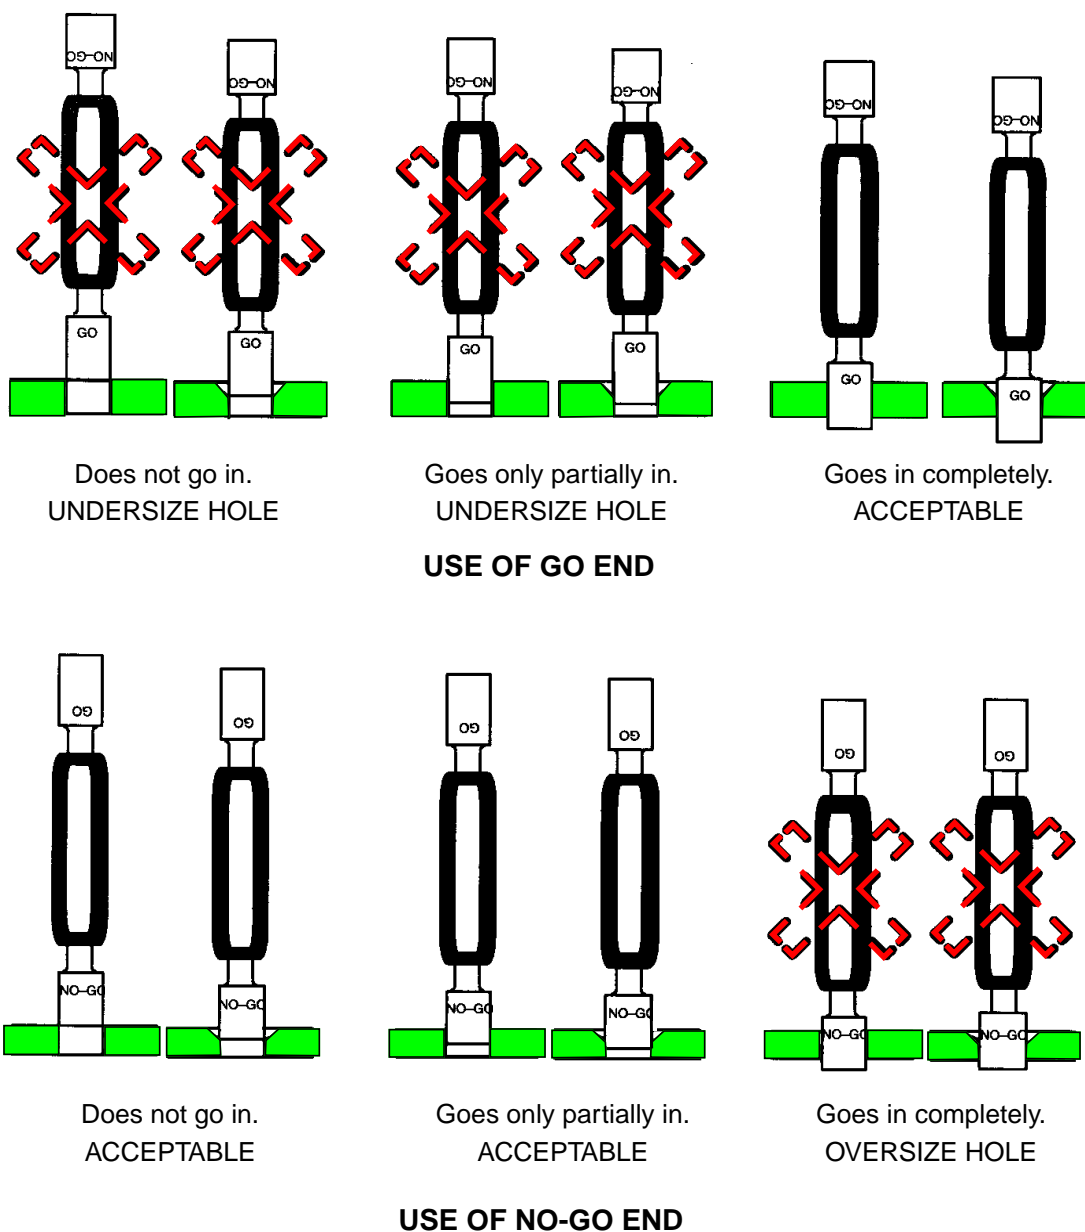

Figure 4 - Use of Go/No-Go Gauges
- 5.3.1 Check selected fastener holes for conformance to the requirements of Table 4 using the applicable go/no-go gauge as follows (see Figure 4):